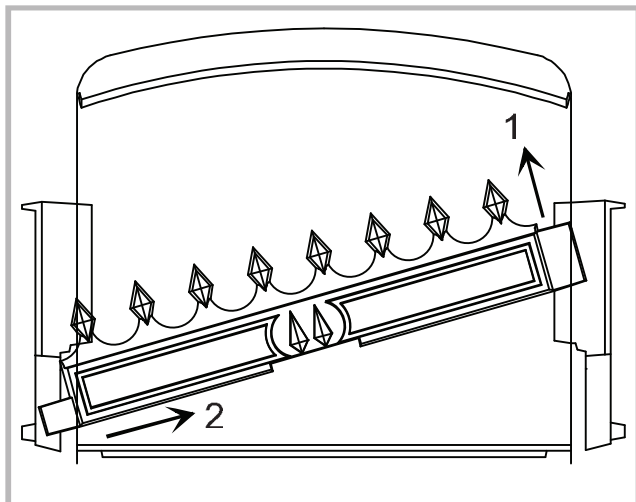
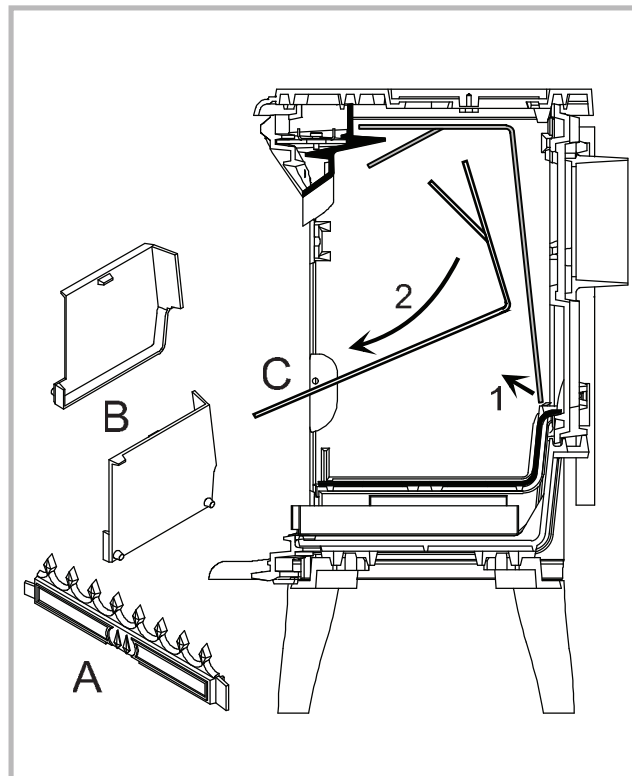

Figure 8 - Removing the fuel retainer
Figure 9 - Removing the flue baffle
- Remove the flue baffle (fig. 9, p. 7)
- Remove the retainer fuel (fig. 8, p. 7), the two side bricks and the flue baffle (fig. 9, p. 7).
First remove the retainer grate (fig. 8 & A fig. 9), the two side walls (B, fig. 9) and the flue baffle (C fig. 9)